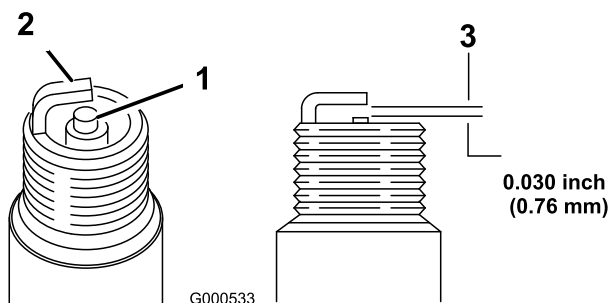

Figure 20
5. Set the gap on the plug to 0.76 mm (0.030 inch) (Figure 20).